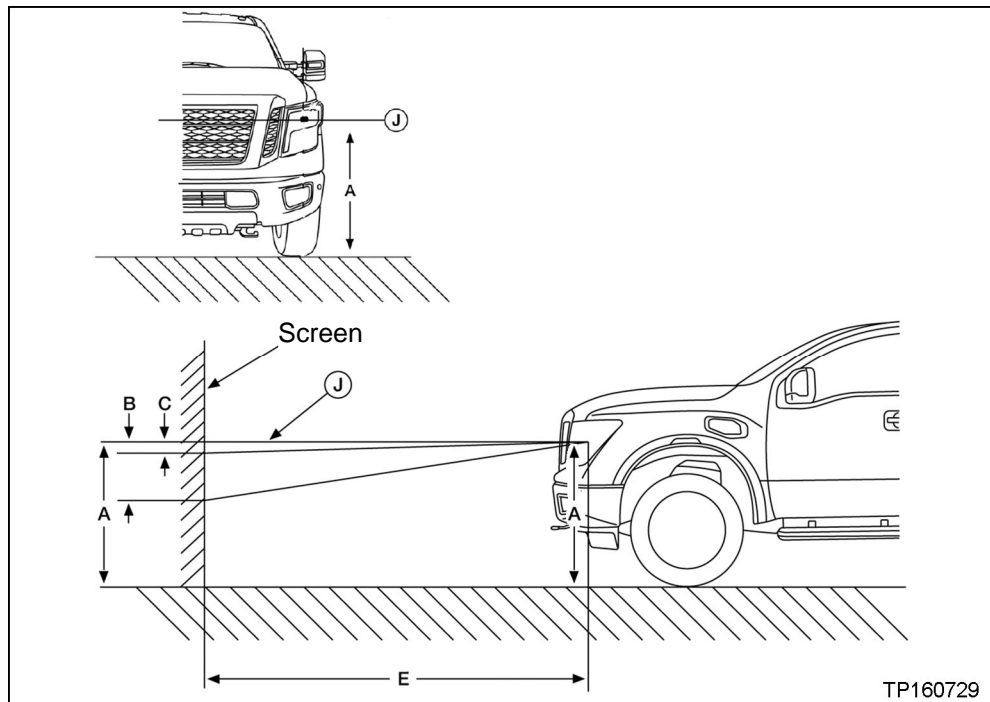

Figure 6
2. Place the vehicle 7.6 m (25 ft) from the screen (see dimension **E** in Figure 6).